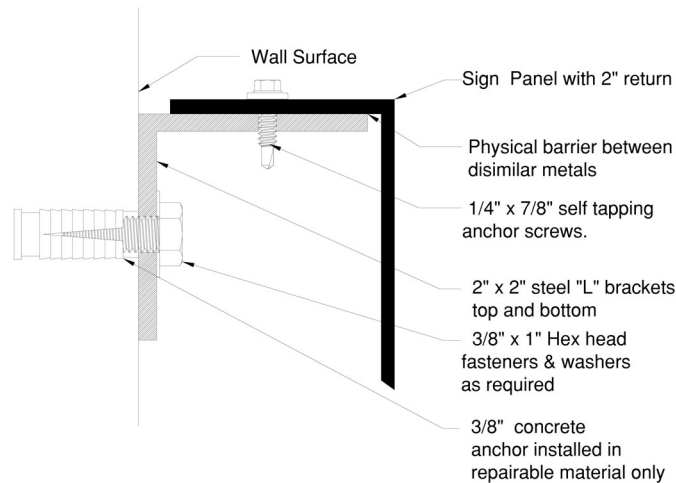

Figure 34.6
- 34.6. Sign panel shall be affixed to L-brackets by three, 1/4" x 7/8" hex head, self-tapping screws. Screw heads shall be coated dark bronze to match sign panel. See figure 34.6.